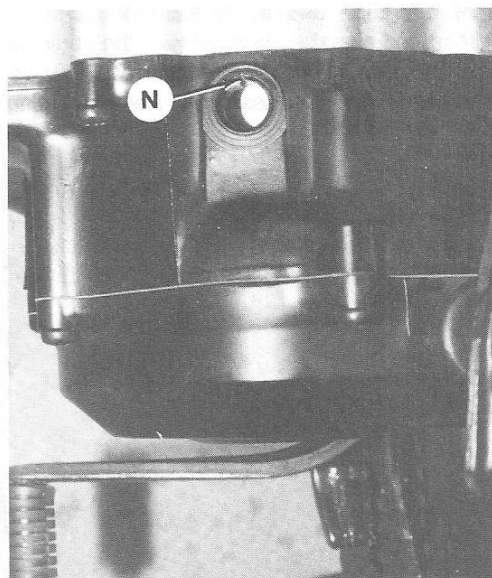
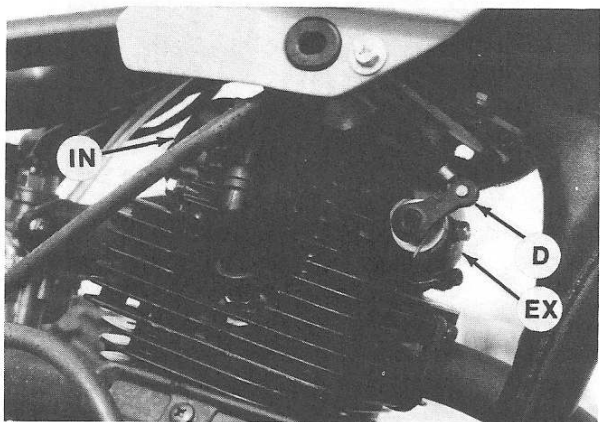
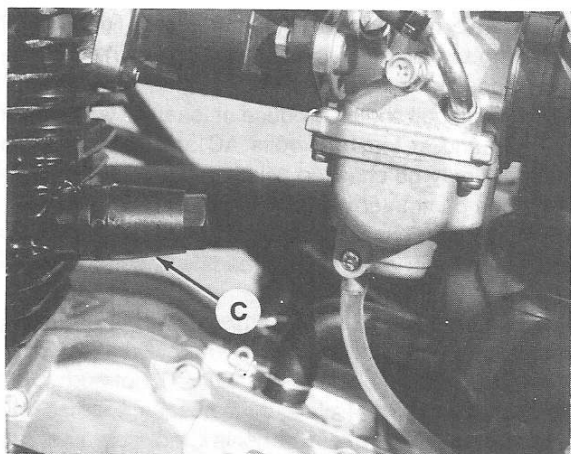
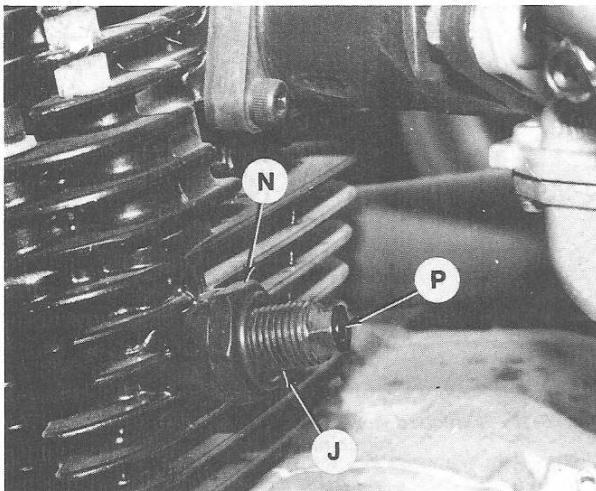

Fig. Y6-9—Remove plug (P) to view timing marks on flywheel.
Fig. Y6-10—View showing location of intake valve cover (IN), exhaust valve cover (EX) and decompression lever (D).
Fig. Y6-11—Remove cap (C) for access to camshaft chain adjuster (J—Fig. Y6-12).
Fig. Y6-12—Plunger (P) should move slightly with engine running at idle. Refer to text for camshaft chain tension adjustment.
Ignition timing is not adjustable. Ignition timing should be correct if all components are in good working condition. Ignition timing can be checked by removing plug (P—Fig. Y6-9) on the upper side of the left side cover. Use a power timing light to check ignition timing with the engine running at idle speed. At idle speed, the "F" mark on the flywheel should align with notch (N) in the timing plug hole.
(P—Fig. Y6-9) and the intake and exhaust valve covers (IN and EX—Fig. Y6-10). Rotate the crankshaft so the "T" mark (TDC) on the flywheel is aligned with the notch in the timing plug hole and the piston is on its compression stroke. Note that the intake valve rocker arm will not move as the "T" mark approaches the notch if the piston is on the compression stroke. Clearance between the valve end and the rocker arm screw should be 0.05-0.09 mm (0.002-0.004 in.) for the intake valve and 0.11-0.15 mm (0.004-0.006 in.) for the exhaust valve. Loosen the locknut and turn the screw to adjust valve clearance. Use the proper tool when turning the adjusting screw. Retighten the locknut and recheck the clearance. When installing the intake valve cover, the "V" ridge on the inside must be at the top and point down when installed.
To adjust the cable actuated decompression lever, remove the seat and fender assembly. Remove timing plug (P—Fig. Y6-9) and the intake valve cover (IN—Fig. Y6-10). Rotate the crankshaft so the "T" mark (TDC) on the flywheel is aligned with the notch in the timing plug hole and the piston is on its compression stroke. Note that the intake valve rocker arm will not move as the "T" mark approaches the notch if the piston is on the compression stroke. There should be 2-3 mm (0.08-0.12 in.) free play at the end of the decompression lever. Adjust free play by turning the cable adjuster. When installing
To adjust cam chain tension, remove timing plug (P—Fig. Y6-9) and the intake valve cover (IN—Fig. Y6-10). Rotate the crankshaft so the "T" mark (TDC) on the flywheel is aligned with the notch in the timing plug hole and the piston is on its compression stroke. Note that the intake valve rocker arm will not move as the "T" mark approaches the notch if the piston is on the compression stroke. Unscrew cap (C—Fig. Y6-11). Loosen locknut (N—Fig. Y6-12) and turn adjuster (J) so pushrod end (P) is flush with end of adjuster. Reinstall timing plug and intake valve cover. When installing the intake valve cover, the "V" ridge on the inside must be at the top and point down when installed.